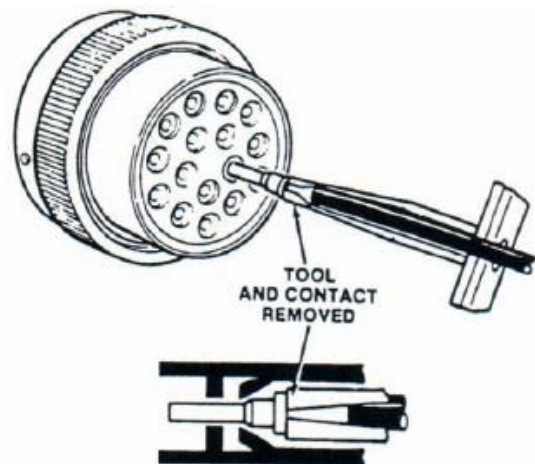

Figure 203
5. Once the wire has seated into the contact carefully slide the wire, removal tool and contact out of the receptacle. Figure 203